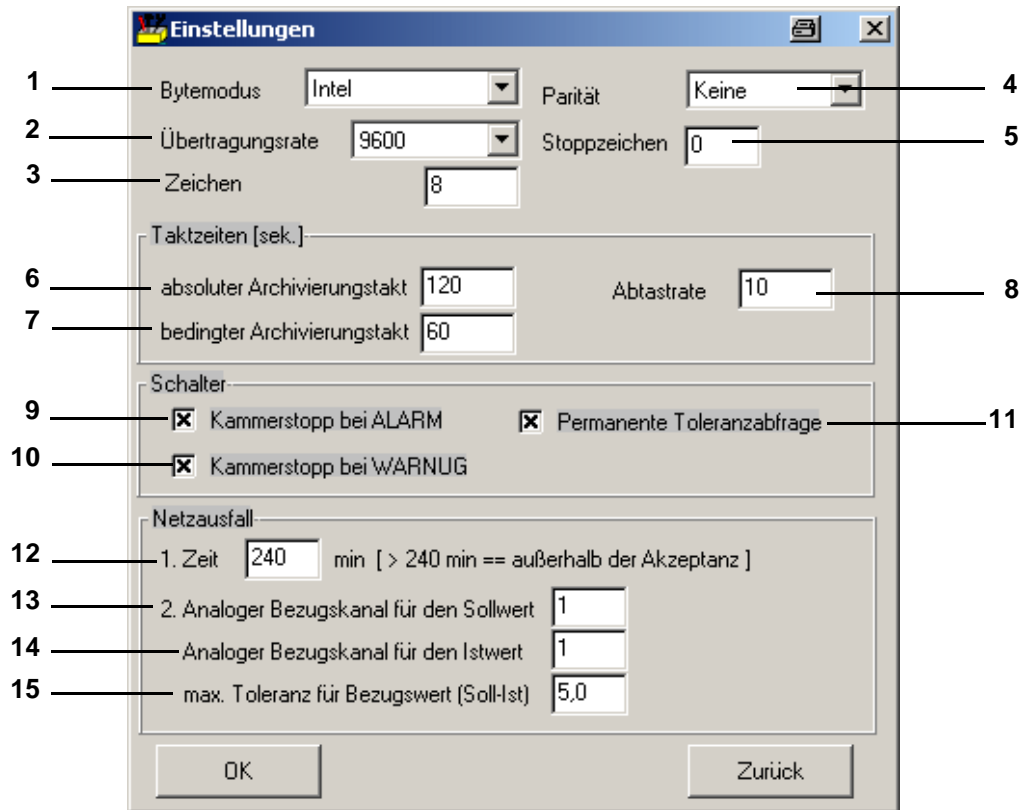

Fig. 3-10: Settings
→ *Fig. 3-10: Settings (page 15)*
- 6 Time between two archiving cycles → Fig. 3-10: Settings (page 15)
→ Fig. 3-10: Settings (page 15)